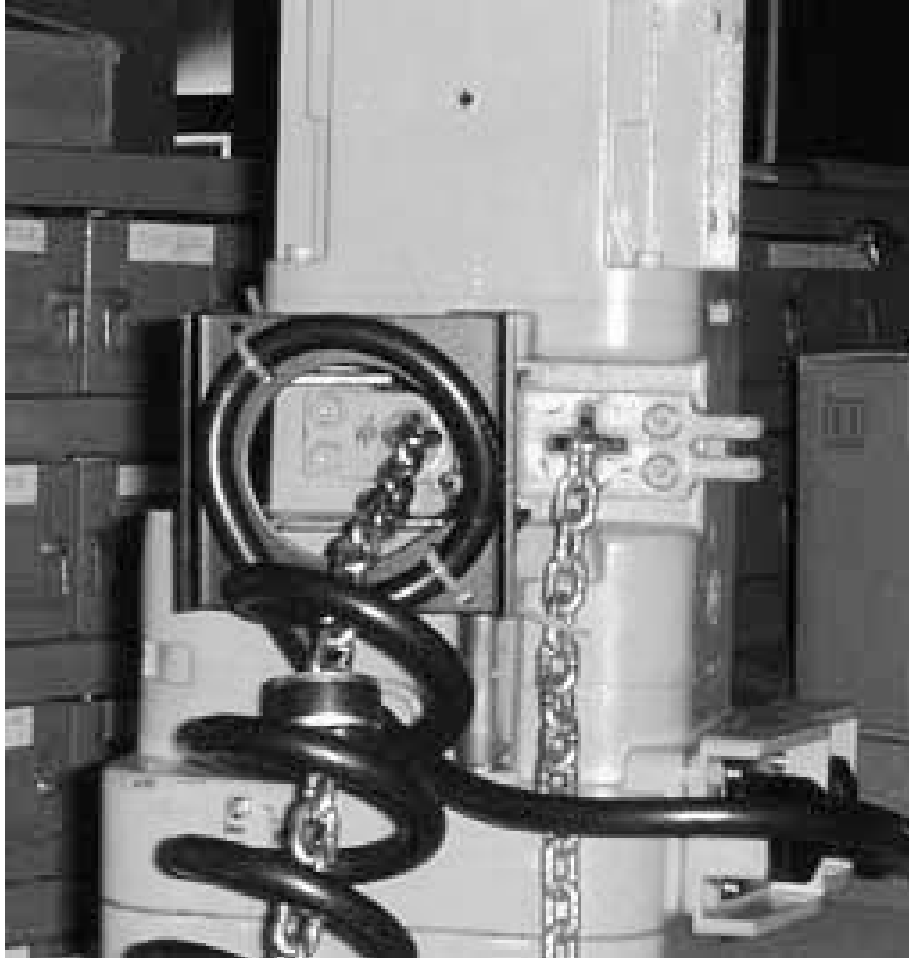

Figure 2
- 5.3 Pass load chain on the load side through inside of the helical cable. Stretch and remove the curl around 25th coil of the helical cable from hook. (ref. Figure 2)
- 5.4 Fix 24th coil of the cable to the cable holder by using cable ties (16) in two places, as shown in the Figure 2. (For direct wiring secure 19th coil of cable to cable holder).